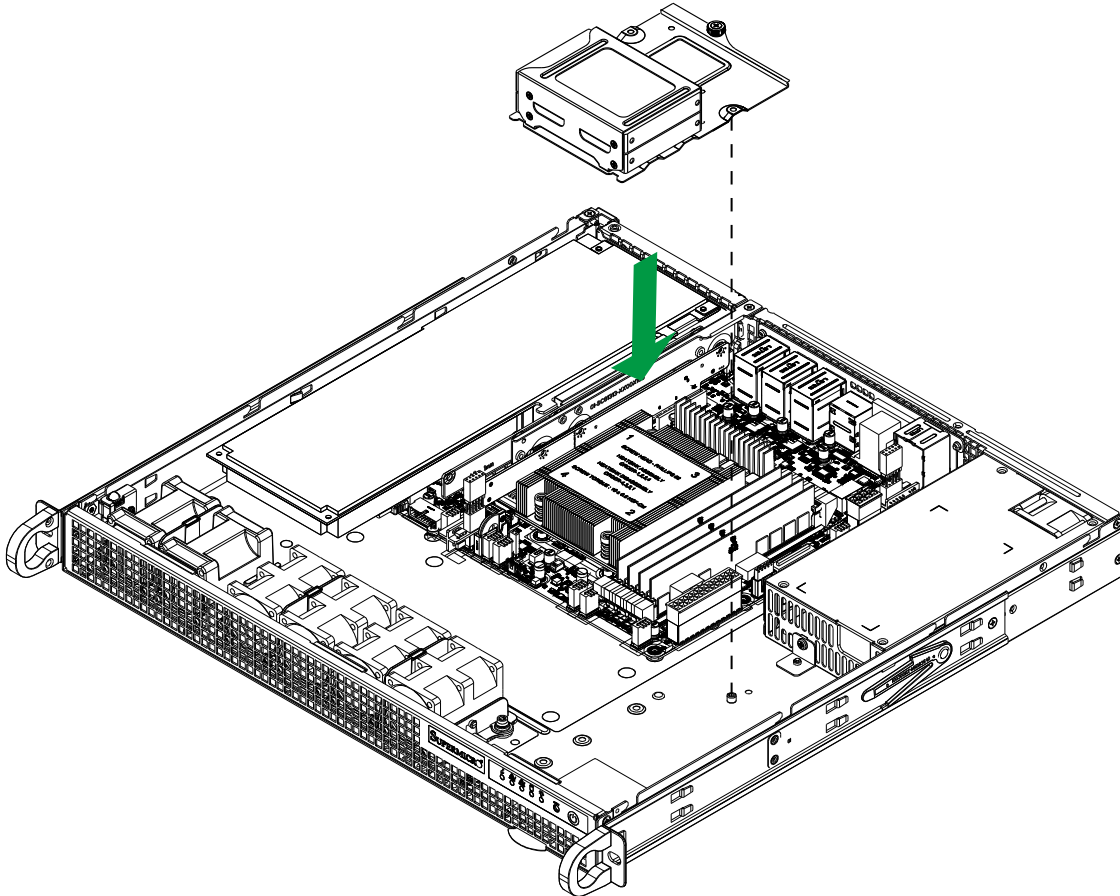

Figure 3-7. Securing the Optional 2.5" Storage Drive to the Chassis Floor
5. Secure the tray to the chassis floor with one thumb screw (Figure 3-7).